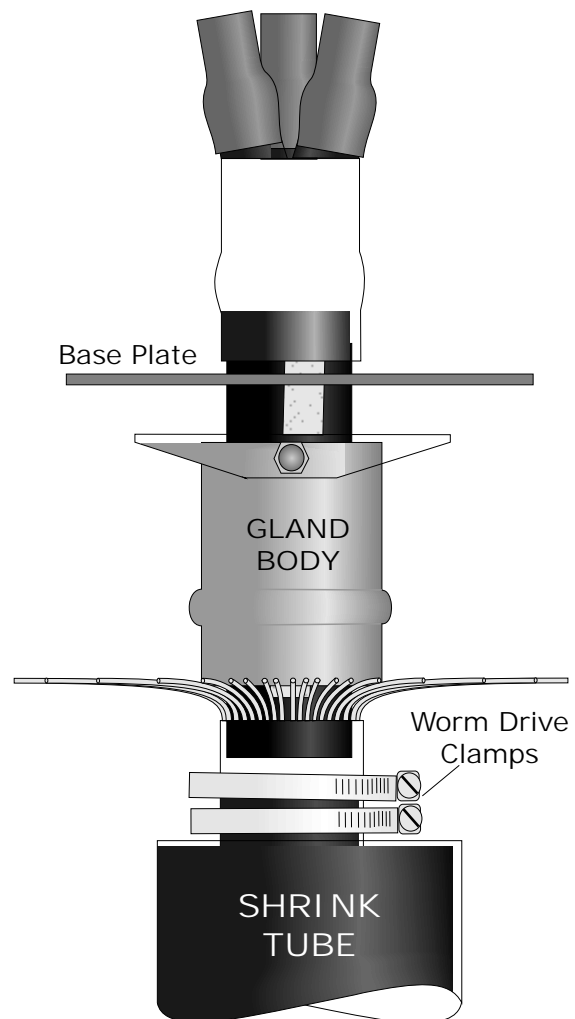

Fig 2
2. Open up the wire armours as shown in Fig 2.